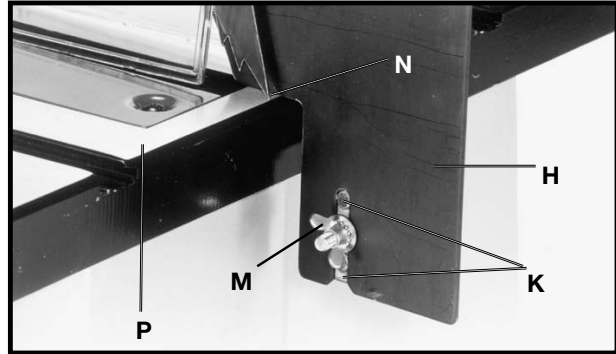

Fig. 20
8. Fasten splitter (H) Fig. 20, to splitter support bracket using 1/4 in. flat washer, 1/4 in. external tooth lockwasher and M6 wing nut (M). **NOTE:** Before tightening wing nut (M) make certain there is at least a 1/8 in. gap between the bottom edge of splitter (N) and top surface of table (P) and that protrusion “pins” (K) Fig. 20, are inside the slot of splitter assembly (H).